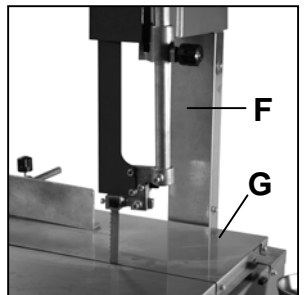

Figure 5
Then remove the Blade Guard (F) and Upper Guard Plate (G) (Figure 5).